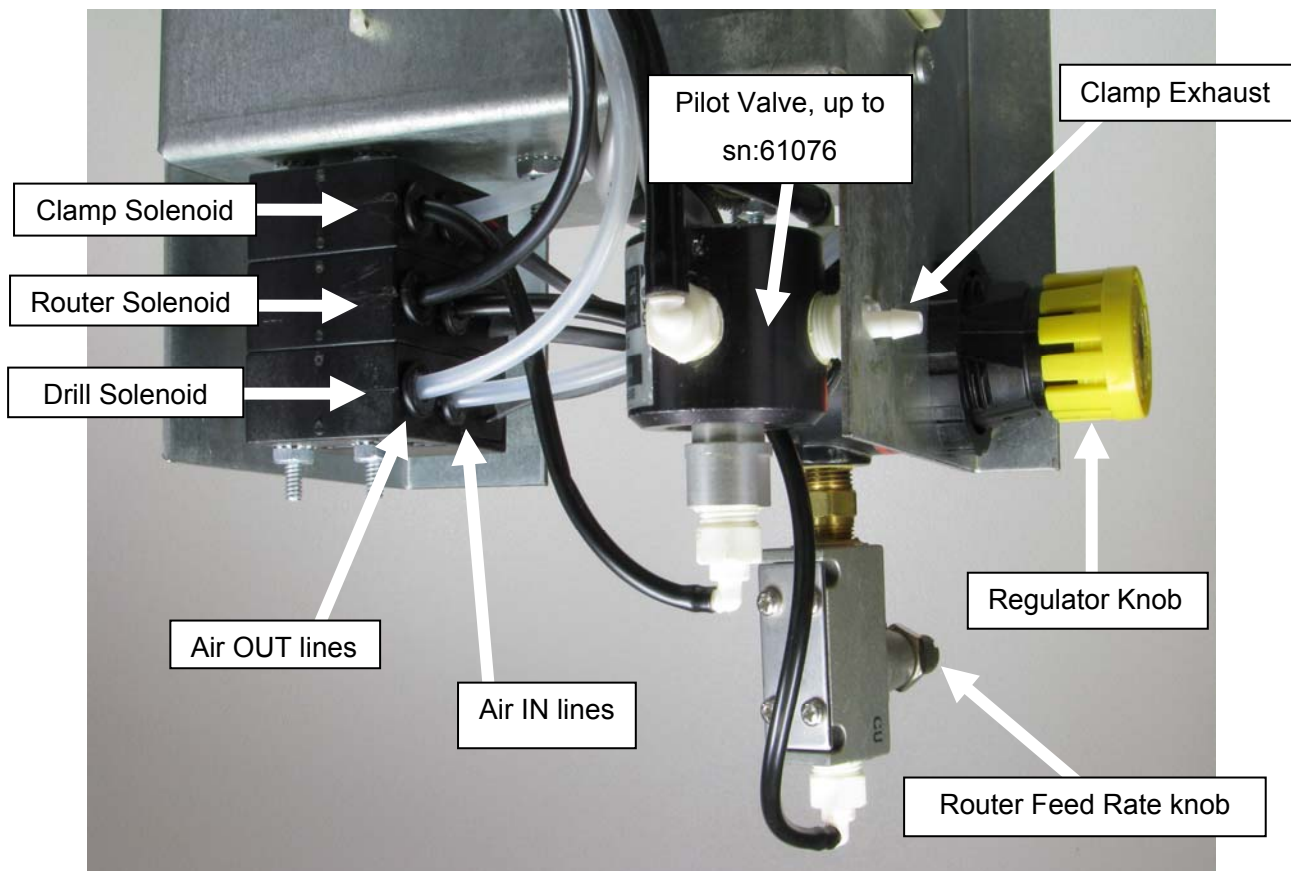

Fig 20
2. Swap the "Air Out" lines between the Drill Solenoid and the Router Solenoid. **See Fig 20.**